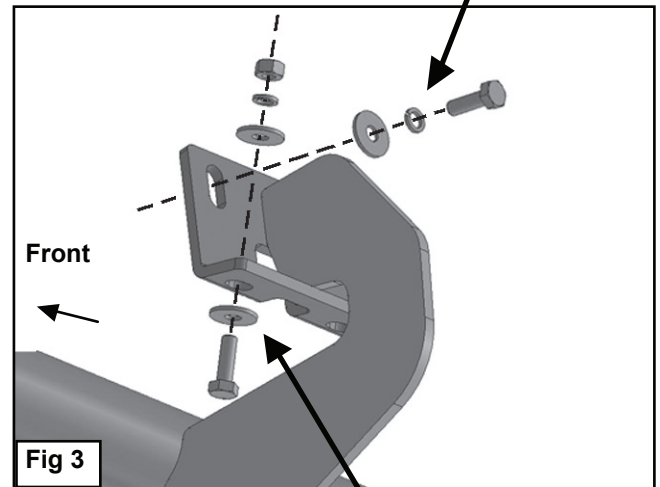

Fig 3
With assistance, hold the passenger/right Side Armor up in place against the inner body panel. Attach the Side Armor to the (6) Clip Nuts with the included (6) 8mm x 30mm Hex Bolts, (6) 8mm Lock Washers and (6) 8mm x 28mm Large Flat Washers, (Figures 3 & 4). Leave hardware loose.
(2) 8mm x 30mm Hex Bolts
(2) 8mm Hex Nuts
Align the bottom holes in the Side Armor with the (6) holes in the pinch weld. Bolt the Side Armor to the pinch weld using the included (6) 8mm x 25mm Hex Bolts, (12) 8mm STD Flat Washers, (6) 8mm Lock Washers and (6) 8mm Hex Nuts, (Figures 3 & 4). NOTE: Insert the bolts up from the bottom of the pinch weld and through the Bracket.